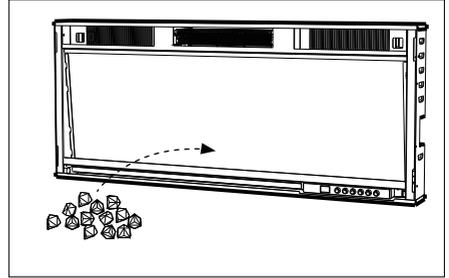

fig.2
2. Place the decorative crystals in the groove of the fireplace and remove the foam from the glass.(fig.2)
7. Place the decorative crystals in the groove of the fireplace and remove the foam from the glass.(fig.2)